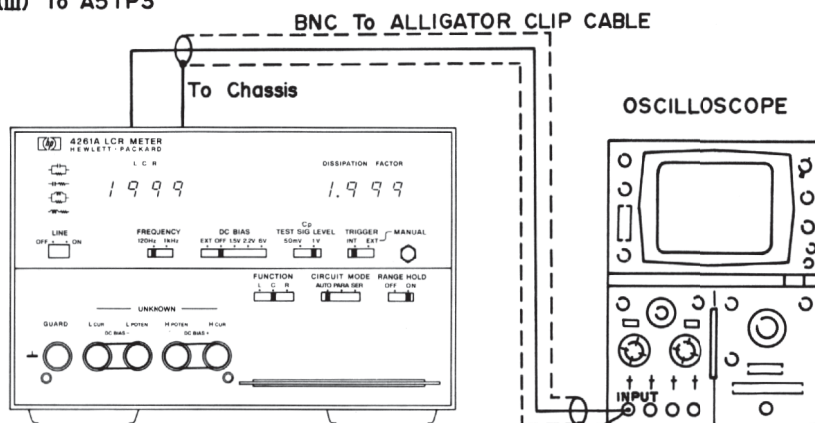

Figure 5-4. A5 Board Offset Adjustment.
**PROCEDURE:****(I) OFFSET-1 Adjustment**
- a. Connect BNC to alligator clip cable between oscilloscope and 4261A A5TP1 and 4261A chassis (see Figure 5-4).
- a. Connect BNC to alligator clip cable between oscilloscope and 4261A A5TP2 and 4261A chassis (see Figure 5-4).
- a. Connect BNC to alligator clip cable between oscilloscope and 4261A A5TP3 and 4261A chassis (see Figure 5-4).